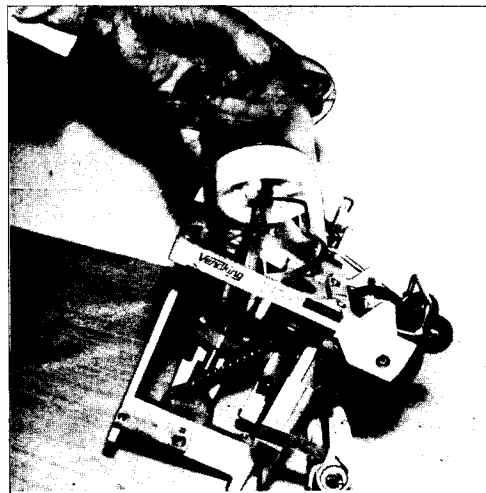

FIGURE 29
- Turn cylinder counterclockwise half a turn and lift straight up. (FIGURE 29)